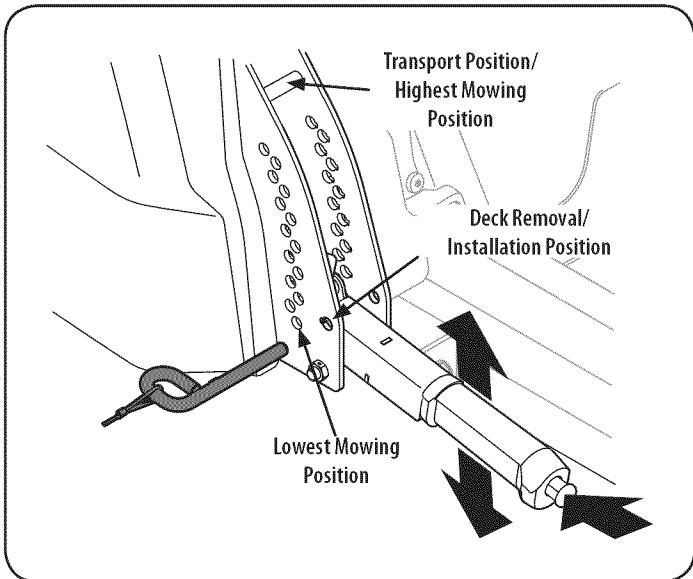

Figure 24
- a. Using the deck lift handle, raise the deck to the position that provides the most horizontal run of the belt between the deck idler pulleys and the PTO pulley on the bottom of the engine. See Figure 24.
- d. Lower the deck into the deck removal/installation position using the deck lift handle. See Figure 24.
- Place the deck lift handle in the highest mowing position See Figure 24.